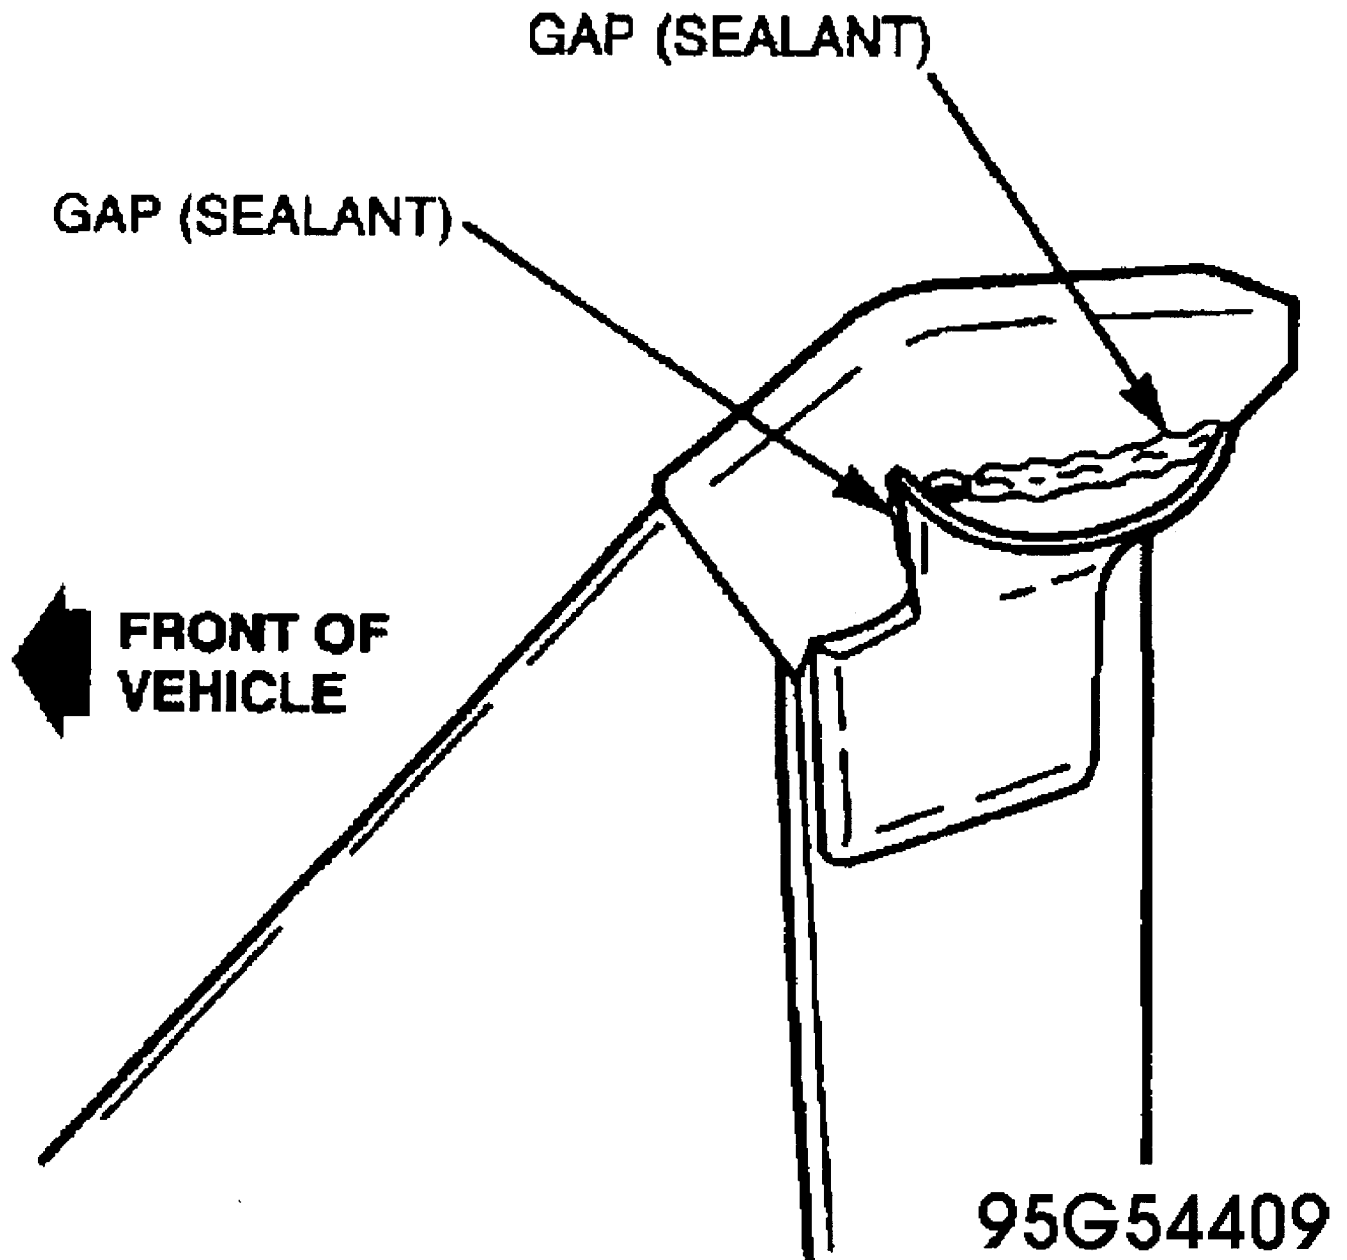

Fig. 4: Sealant In Gap Between Division Bar & Catcher
5. With the catcher properly positioned, firmly press the catcher onto the division bar. Use a fine tipped tube of RTV Black Sealant and fill any small gaps between the catcher and the division bar. Refer to Fig. 4.